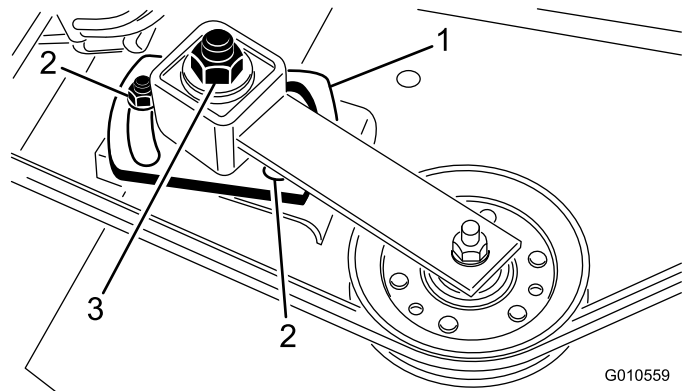

Figure 28
3. Loosen the 2 nuts securing the idler plate in place. Using a socket and torque wrench, tighten the idler adjusting nut to 25-30 ft-lb (24-41 N-m) (Figure 28).